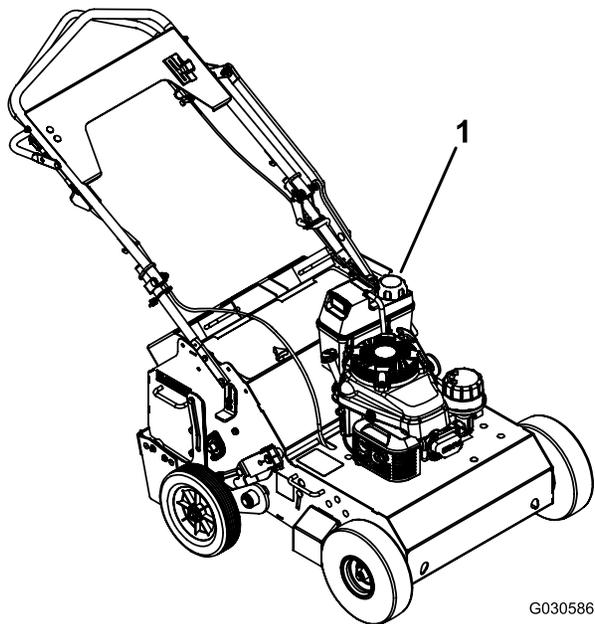

Figure 9
1. Clean around the fuel-tank cap and remove the cap from the tank. (Figure 9).